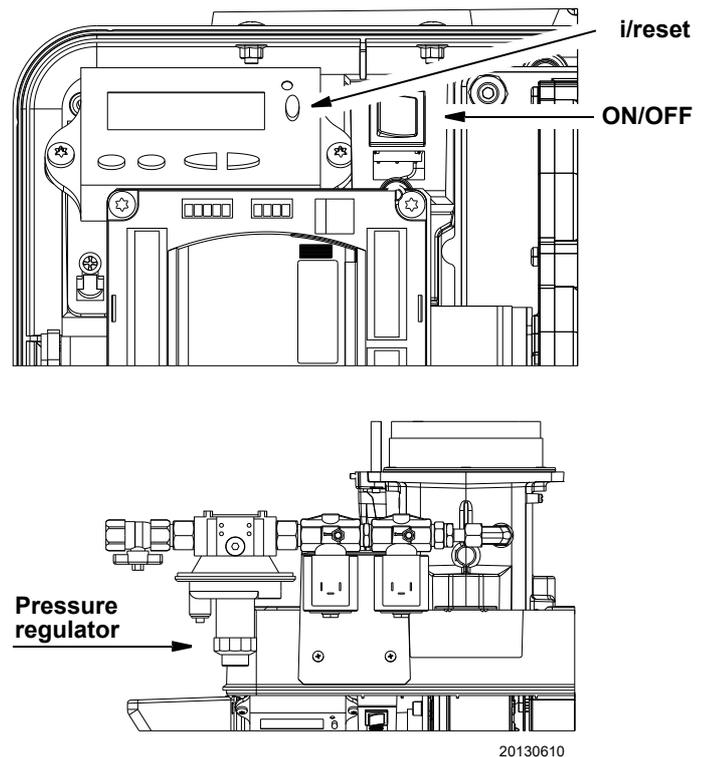

Fig. 161
- Press the switch “ON/OFF” (Fig. 161) selector to “OFF”, standby (OFF).
- Entering the password of the technician (SO) using the buttons “+”, “-” and “i/reset”. See also chapter Entering the password on page 39.
If ignition is still not achieved, it may be that gas is not reaching the pilot within the safety time period of 3 seconds. Increasing the gas pressure via the pressure regulator (Fig. 161).
Press the switch “ON/OFF” switch to “OFF” (Fig. 161 on page 49).